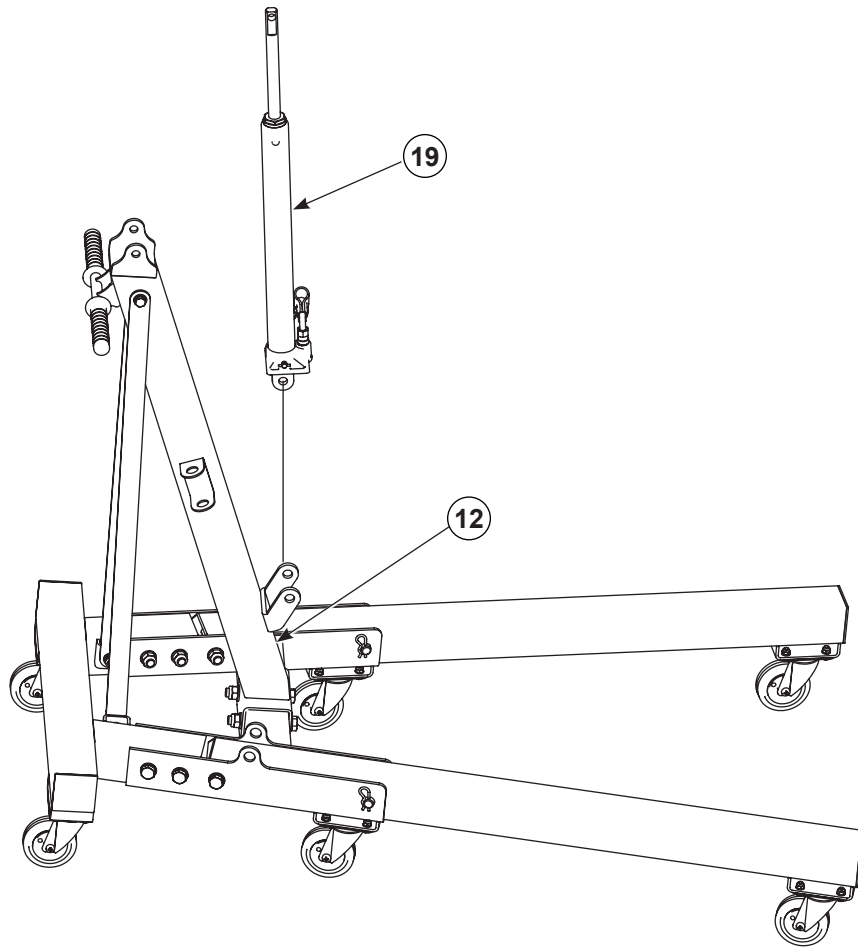

Figure 12 Ram Installation (1 of 2)
See Figures 12 and 13. Also, refer to Figure 1.
1. See Figure 12. Position ram (19) to boom support post (12).